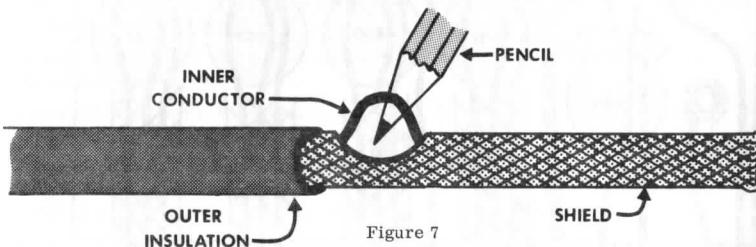

Figure 7
- () Prepare a 6 inch length of co-axial shielded cable by stripping 3/4 inch of the outer insulation from each end to expose the braided shield. At one end of this cable cut the shielding braid off even with the end of the outer insulating jacket. On the other end of this cable carefully push the braided shield back and use a pencil to form a hole in the braid at a point near where the outer insulation ends. Loop the inner conductor through this hole as shown in figure 7. Strip 1/4 inch of insulation from the exposed inner conductor at each end of the cable.